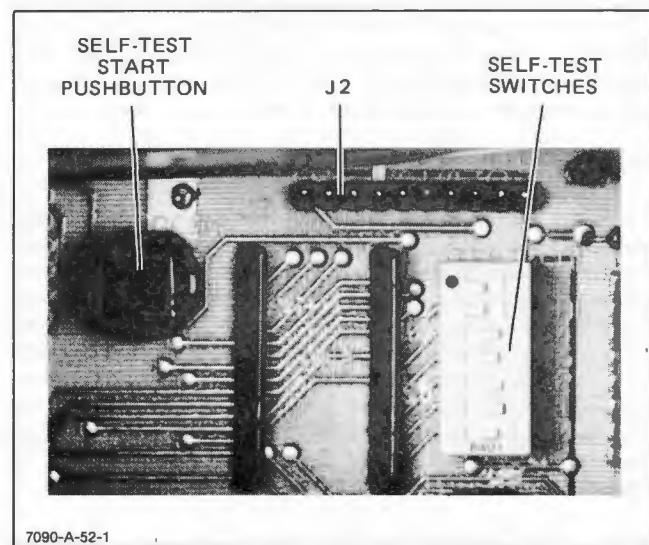

Figure 8-13. Self-Test Switches and Test Points
- a. Set the HP 7090 LINE switch to off (0) and remove line cord.
- c. Remove screw and open cover on rear electrostatic discharge (ESD) shield. See Figure 8-13.
- g. Self the self-test switches S0 through S4 to 14 and press the self-test start pushbutton S1. See Figure 8-13.
- Set the HP 7090 LINE switch to OFF (0) and remove line cord.
- Remove screw and open cover on rear electrostatic discharge shield (ESD) as shown in Figure 8-13.